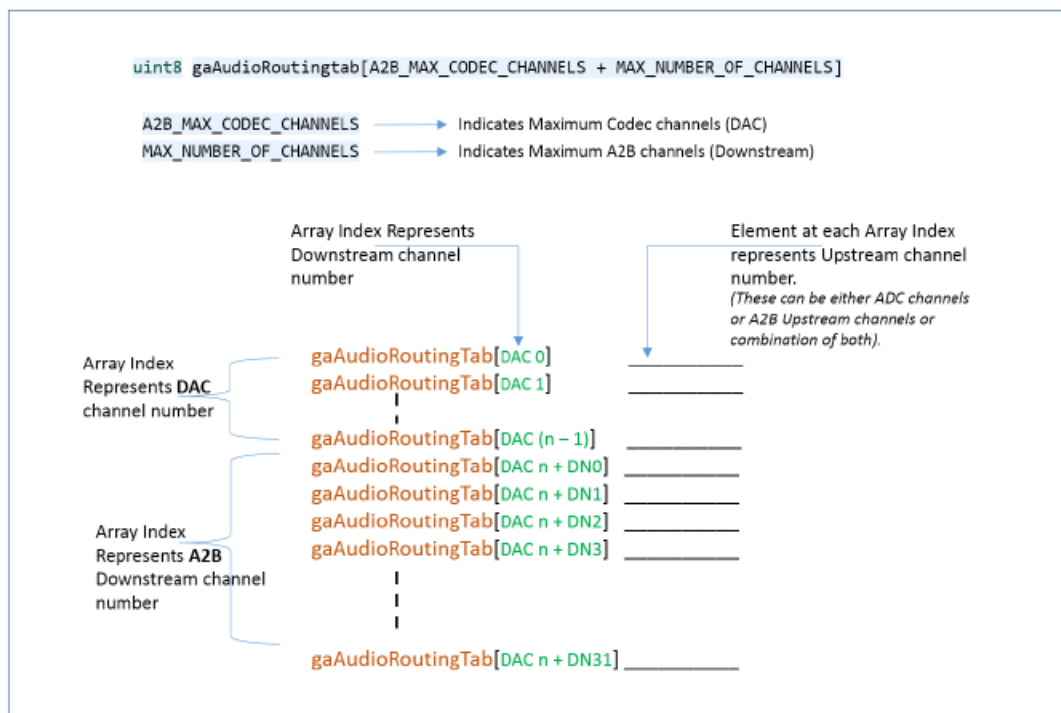

Figure 21 : Audio Routing Table Structure
2. The various fields of the routing table structure `gaAudioRoutingtab` are explained in Figure 21.